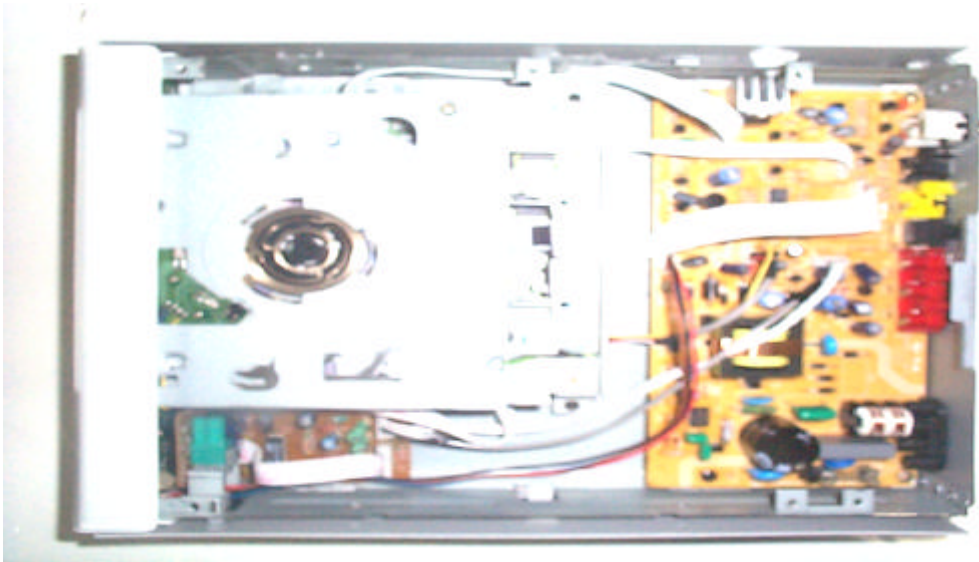

Figure 4
**Step4:** Remove the metal plate, the Loader and other modules will be visible. (Figure 4)